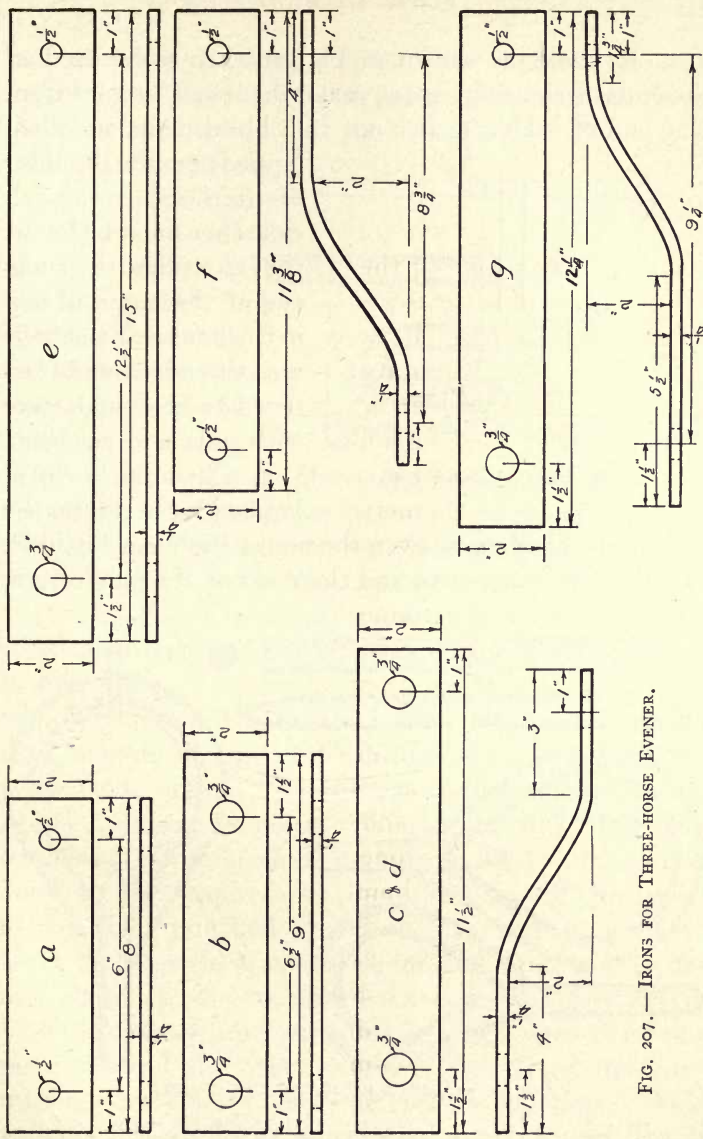

FIG. 207.—IRONS FOR THREE-HORSE EVENER.
1. The irons for the three-horse evener are  $\frac{1}{4}$ " thick and 2" wide. Each of the four that connect the singletrees to the doubletree is represented by *a*, Fig. 207. They are 8" long. The holes, which are  $\frac{1}{2}$ " in diameter, are 6" apart. The irons connecting the doubletree to one end of the evener are represented by *b*, *c*, and *d*. *b* is 9" long; and the holes, which are  $\frac{3}{4}$ " in diameter, are  $6\frac{1}{2}$ " apart. *c* and *d* are  $11\frac{1}{2}$ " long; and the holes, which are  $\frac{3}{4}$ " in diameter, are 9" apart. These two irons are bent in a reverse curve 4" from one end and 3" from the other end; and the amount of the offset is 2". Irons *e* and *f* and *g* connect one singletree to the other end of the evener. *e* is 15" long; and the holes are  $12\frac{1}{2}$ " apart. One of them is  $\frac{3}{4}$ " in diameter and the other is  $\frac{1}{2}$ " in diameter. *f* is  $11\frac{3}{8}$ " long; and the holes, both of which are  $\frac{1}{2}$ " in diameter, are  $9\frac{3}{8}$ " apart. This iron is bent in a reverse curve 2" from one end and 4" from the other end; and the offset is 2". *g* is  $12\frac{1}{4}$ " long; and the holes, one of which is  $\frac{3}{4}$ " in diameter and the other  $\frac{1}{2}$ " in diameter, are  $9\frac{3}{4}$ " apart. This is bent in a reverse curve  $5\frac{1}{2}$ " from one end and  $1\frac{3}{4}$ " from the other end; and offset is 2".